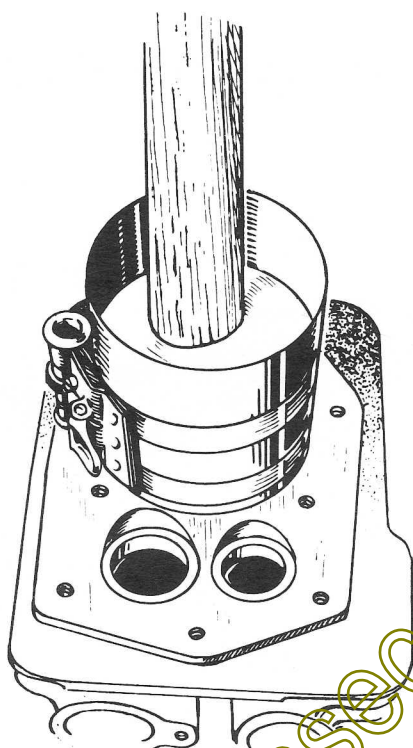

FIGURE 36. INSTALLING PISTON
4. Tap the piston down into the bore with the handle end of a hammer until the connecting rod is seated on the journal (Figure 36). Install the bearing cap on the rod with the stamped reference numbers matching the marks on the rod. Install and tighten the bolts evenly in steps to the specified torques.